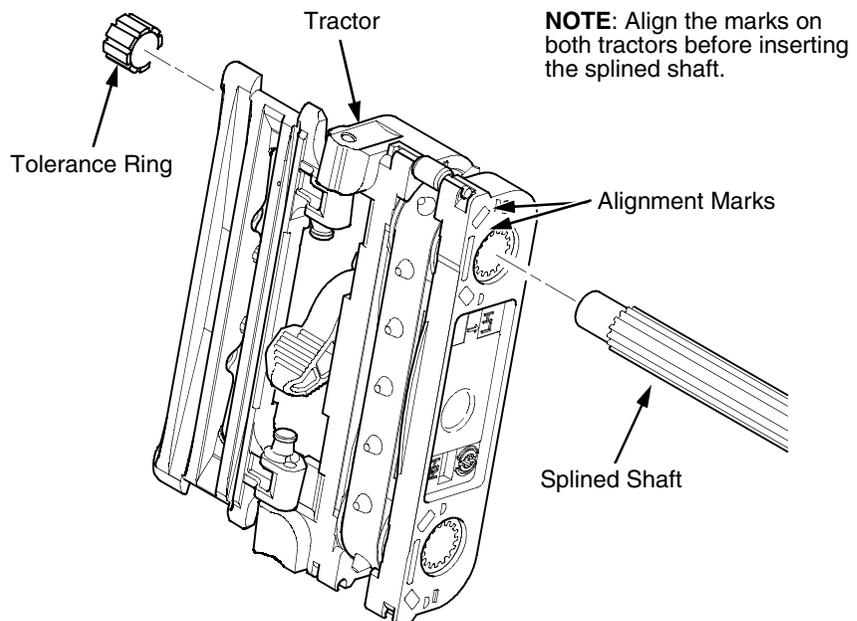

Figure 37. Splined Shaft and Tractor Installation
1. Open the doors on the left and right tractors. Position the tractor belts so the alignment marks are at the top on both tractors. (See Figure 37.)
2. Slide the splined shaft through the right side plate and tractors. Make sure the same spline passes the marked groove on each tractor. (See Figure 37.)
3. Install the tolerance ring on the left end of the splined shaft (page 256, item 5).
4. Insert the tolerance ring lead-in portion into the sealed ball bearing in the left tractor shaft plate (page 256, items 3, 5, and 6) while sliding the ball bearing into the right side plate. Push the splined shaft to the left until the flange on the ball bearing is in solid contact with right side plate. The splined shaft will protrude about 1/16 inch from the ball bearing.
5. Install the right tractor shaft plate and screw (page 256, items 7 and 8) by first sliding the upper “fingers” up and against the flange on the ball bearing, then sliding the rectangular cutout over the support shaft end, then snapping the U-shaped “spring” behind the tab on the right side plate.
8. Install the paper supports on the splined and support shafts. (See page 256, item 4.)